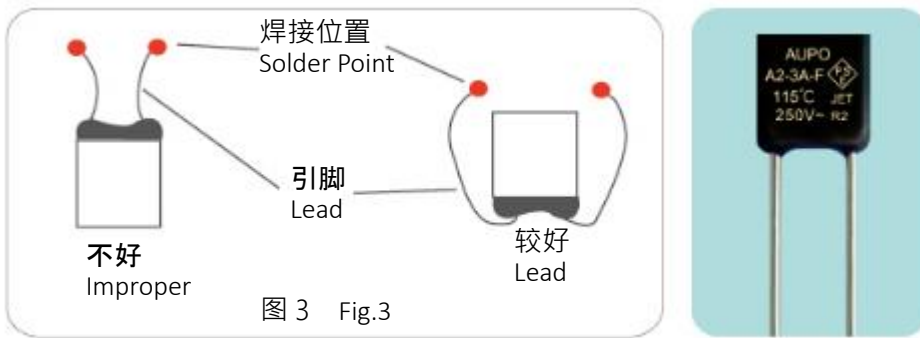

图3 Fig.3
- 尽可能利用长一些的引脚，长一些的引脚允许较长的焊接时间及减少过热的可能性（见图3）为如何在较小的位置保留长一些的引脚例子。在引脚较短的情况下，在焊接时要使用尖嘴钳或其他工具夹在引脚上焊点和保险丝体之间位置上以散热，避免焊接量传入温度保险丝内部。同时焊接温度应控制不要过高，焊接时间尽可能短。
- Using the lead wires as long as possible' when soldering,longer leads permit a longer soldering time and reduce the possibility of overheating.Fig.3 is an example of how to keep longer lead wires when a thermal cutoff is installed in a small space . It is recommend that using a heat sink between the soldering point and sealant to minimized the heat transmission to thermal cutoff.Avoid the soldering temperature is too high and keep the soldering time as short as possible.